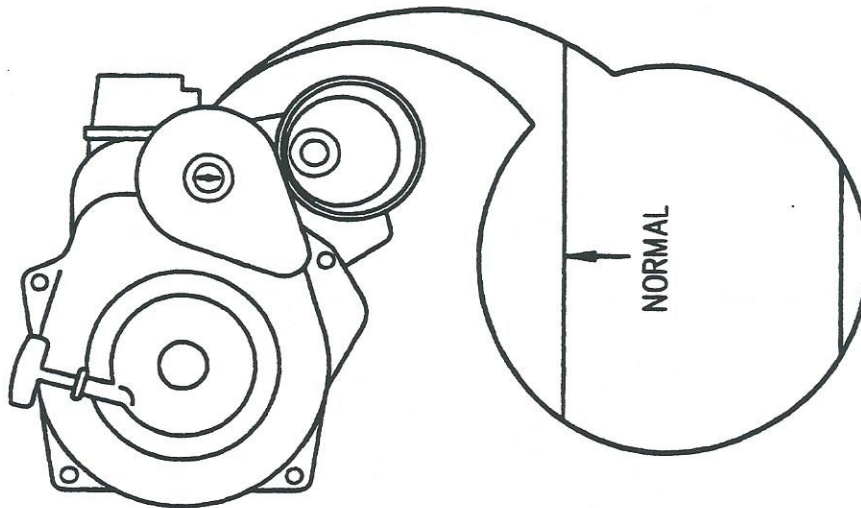

Figure 28 Air Intake Cover, Normal Operation
5. Check that air intake cover is in NORMAL operating (summer) position as indicated on top of filter cover. (Figure 28)